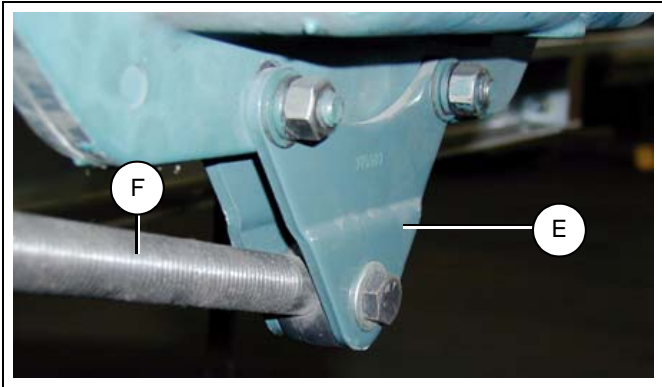
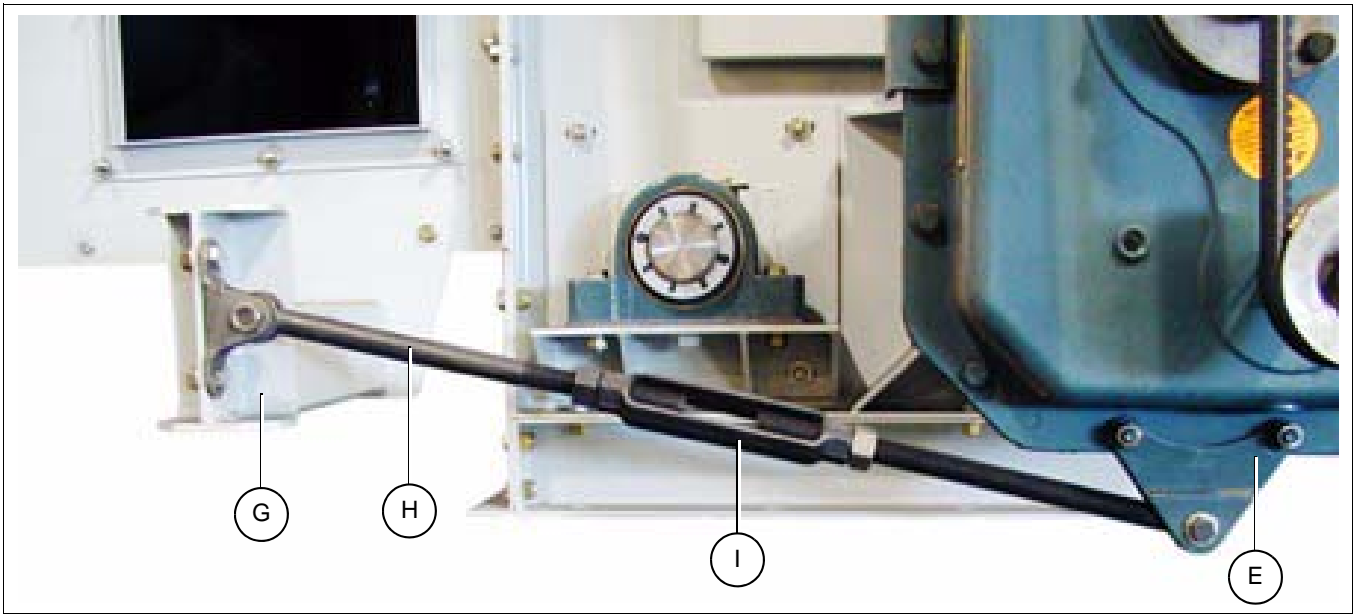
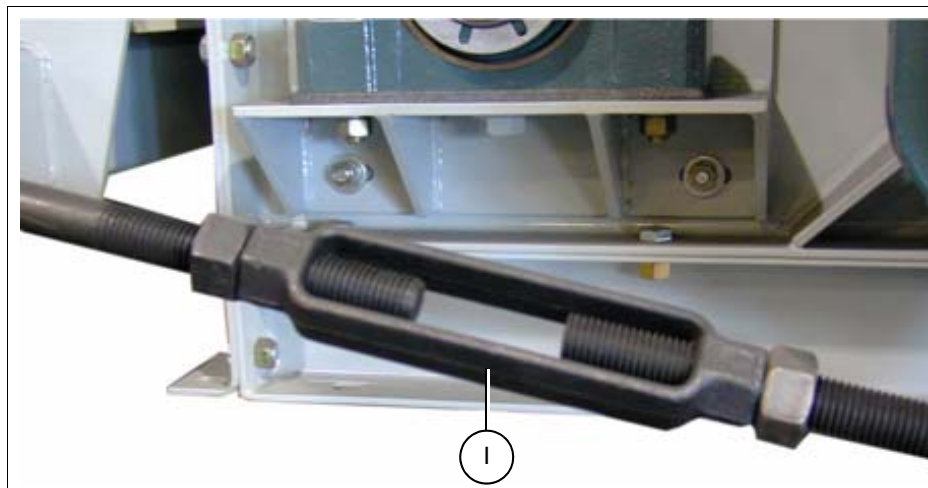

Figure 4J
Figure 4L
Figure 4M
Install the torque arm turnbuckle between the two (2) plates that are located on the bottom of the reducer drive. (See Figure 4L on Page 28.) Secure using bolt with washer and lock nuts. (See Figure 4J on Page 28.) Attach the other end to the torque arm bracket on the conveyor using two (2) bolts, washers and lock nuts. Tighten the torque arm by turning the turnbuckle. (See Figure 4M on Page 29.) Adjust the position of the reducer.
The torque arm bracket is mounted under the first intermediate section. Locate bracket by matching an existing set of holes in the intermediate side that allows the turnbuckle assembly to be as short as possible with the reducer in a vertical position. (See Figure 4L on Page 28.)